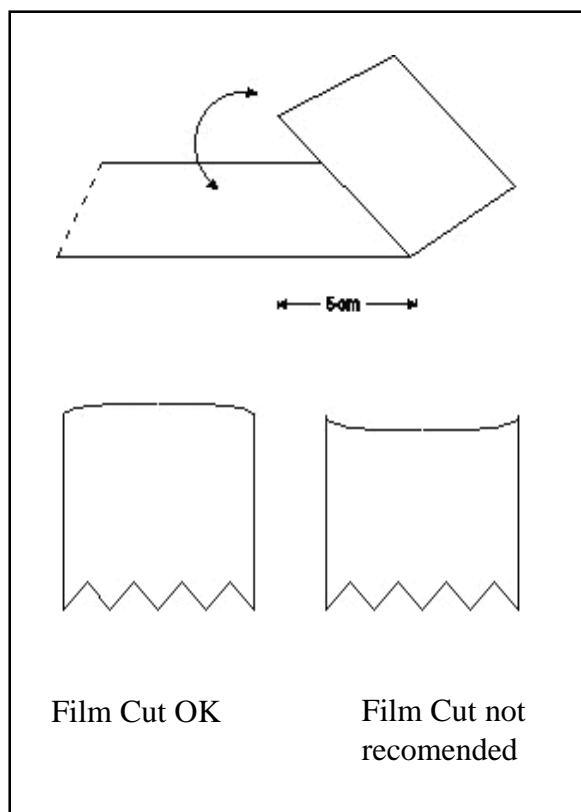

Fig. 4-A
FOLDING PAPER MATERIALS: All phototypesetting paper should be folded, back to back, prior to processing. Phototypesetting film should be folded, emulsion to emulsion, prior to processing. 0.1 and 0.18 mm polyester film does not require any folding prior to processing. *Folding provides a stiff leading edge that removes the natural curling tendency and decreases the probability of wrapping around the rollers.* Fig. 4-A illustrates the proper folding and cutting instructions for paper and film.
- a. Place the processor's mode switch to the stand-by/process position (fig. 4-B).
- b. Adjust the transport speed to the desired rate (fig. 4-B) (see the Control Panel Setting Table).
- c. Check the temperature of the developer and fixer (fig. 4-B) (see the Control Panel Setting Table).
- d. Set the developer and fixer replenishment rates (fig. 4-B) (see the Control Panel Setting Table).
- e. Fold the leading edge of the phototypesetting paper, and then insert it under one of the sensors as straight as possible. **The photo sensors are activated by the material, causing the processor to go into Process Mode.** When processing sheet film: place the film on the feed table and insert it into the processor as straight as possible. The film photo sensor will be activated (fig. 4-B).